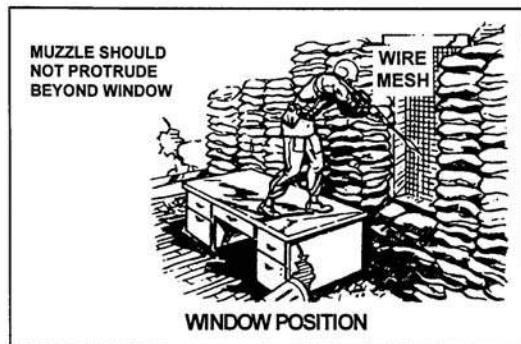

Figure 071-326-0550-1. Barricaded window
- a. Barricade windows. Improve window firing positions by barricading around the windows (figure 071-326-0550-1). You can cover the window completely, except for a small hole to fire through. When barricading windows—